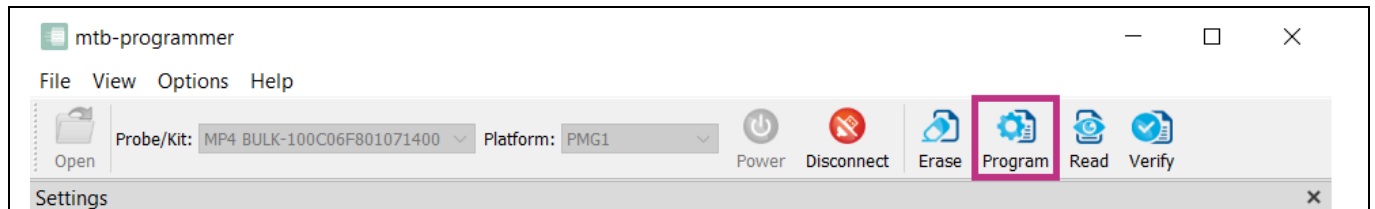

Figure 15 Programming the target
8. Click **Program** to load the selected HEX file (see Figure 15).